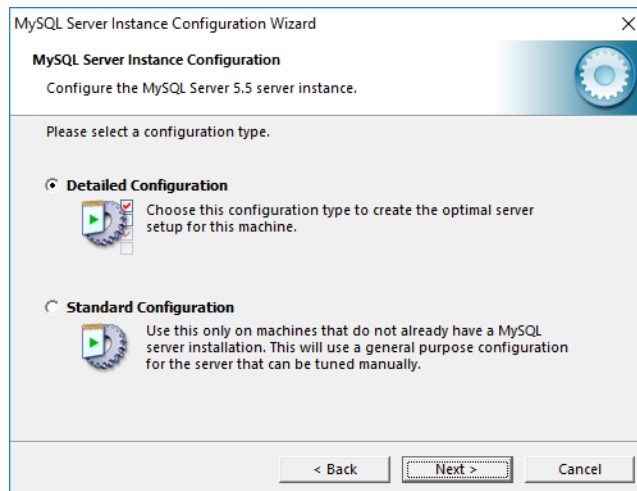

Figure A8
2. Leave "Detailed Configuration" selected and click "Next". (Figure A8)